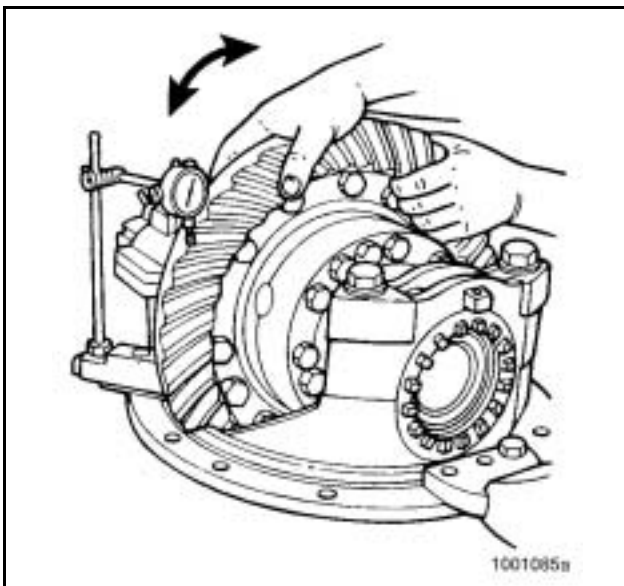

Figure 108
1. Attach a dial indicator on the mounting flange of the carrier. **Figure 108.**
2. Adjust the dial indicator so that the plunger or pointer is against the tooth surface. **Figure 108.**
3. Adjust the indicator dial to zero (0).